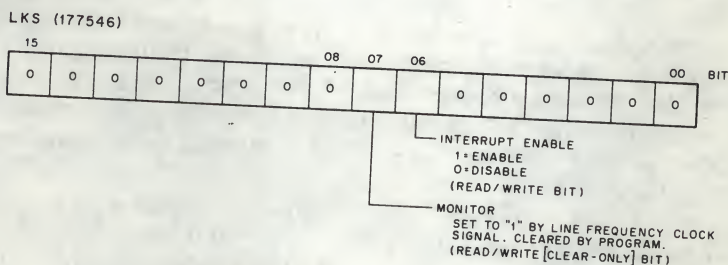

Figure 15 Line-Time Clock Status Register (LKS)
**Programming the LTC** — The LTC function normally divides time into 16-2/3 ms or 20 ms intervals determined by the line frequency source (60 Hz or 50 Hz, respectively). It is possible to disable the line frequency source and use an external frequency source (user-supplied). The program communicates with the LTC function via the LKS register (Figure 15) contained in the KPV11 logic circuits. The LKS register's device address is normally configured to 177546 for system software compatibility.